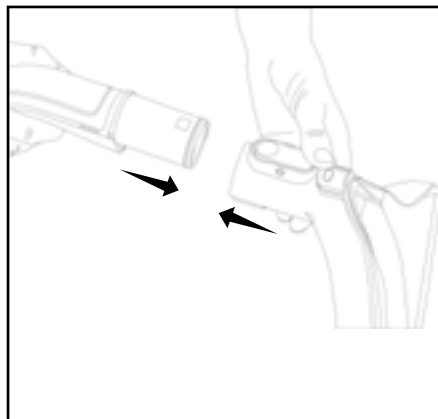

Fig. 6
6. If using either the stubborn stain brush or upholstery tool these can be added directly onto the hose (Fig 6)